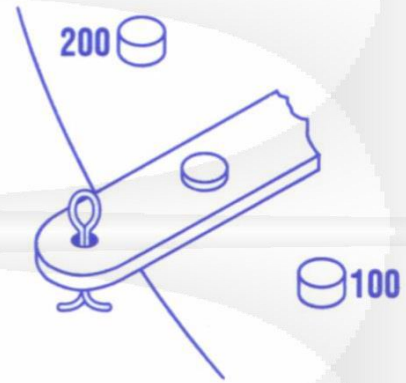

FIGURE 2
- 2) Move dollar shift lever to "central" position (see Figure 2).
- 2) Move dollar shift lever to "100" position (see Figure 2).
- 2) Move dollar shift lever to "200" position (see Figure 2).
- 4) Move dollar shift lever to "central" position (see Figure 2).